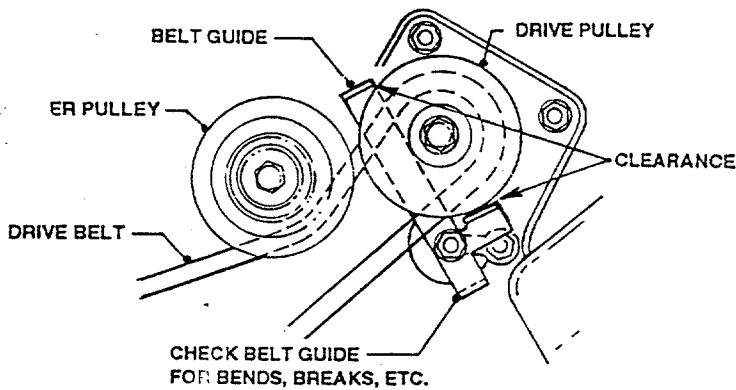

FIGURE 4.6
5. Reinstall belt guide. **IMPORTANT:** Make sure when reinstalling belt guide that it does not touch drive pulley. Belt guide should have an equal amount of clearance on both belt guide fingers. See Figure 4.6.